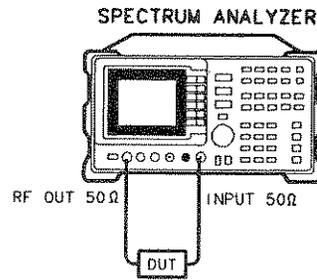

Figure 6-33. Transmission Measurement Test Setup
2. To measure the rejection of a low-pass filter, connect the equipment as shown in Figure 6-33. This example uses a filter with a cut-off frequency of 300 MHz as the DUT.